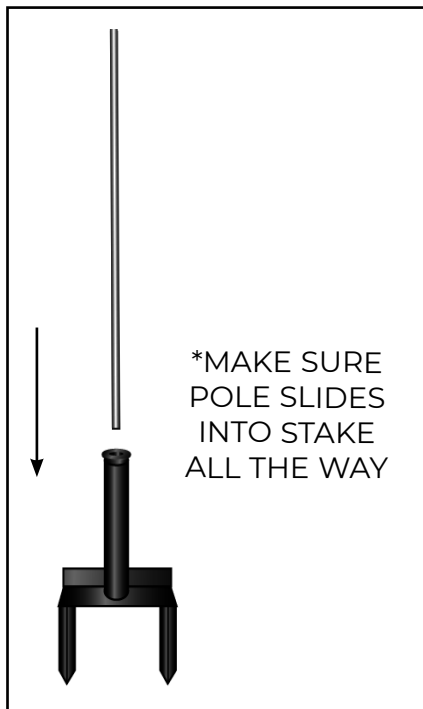

Figure 1
**STEP 2:** Starting with one of the arches, grab one side and ask someone else grab the other end. Together, carefully raise the poles and insert into the ground stakes (See Fig. 1). Repeat this for the remaining arch so the cage stands upright.